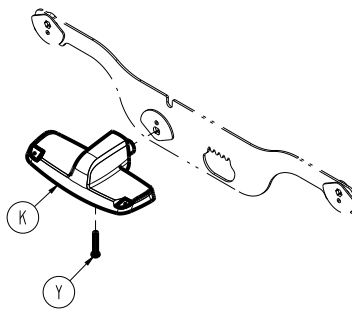

Figure 12 – Brake/steer pedal replacement
4. Using a ratchet and a T30 Torx driver, remove the screw (Y) that secures the brake/steer pedal (K) to the brake shaft (Figure 12). Remove the pedal.